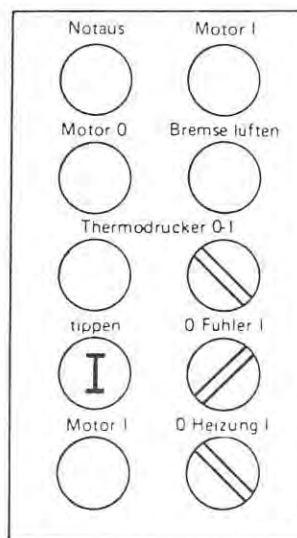

Fig. 131
7. Operate the machine by pressing the „Tip“ button (Figure 131) until there are no pouches in the rotary table any longer.